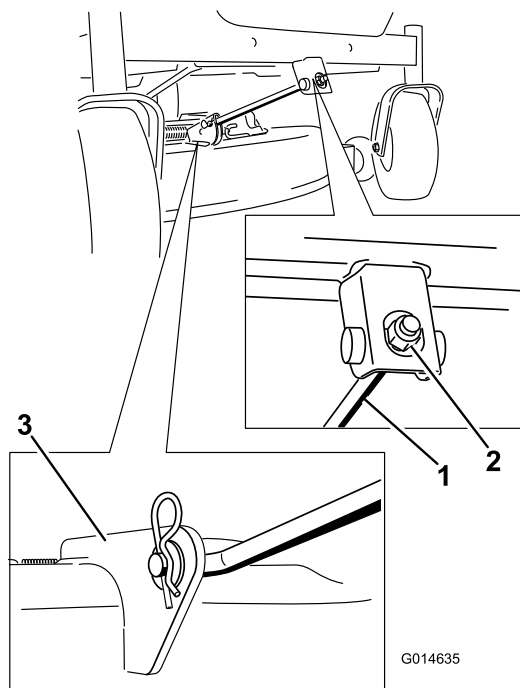

Figure 59
4. Remove the hairpin cotter from the front support rod and remove the rod from the deck bracket (Figure 59).
6. Attach the front support rod to the mower deck with the clevis pin and hairpin cotter (Figure 59).